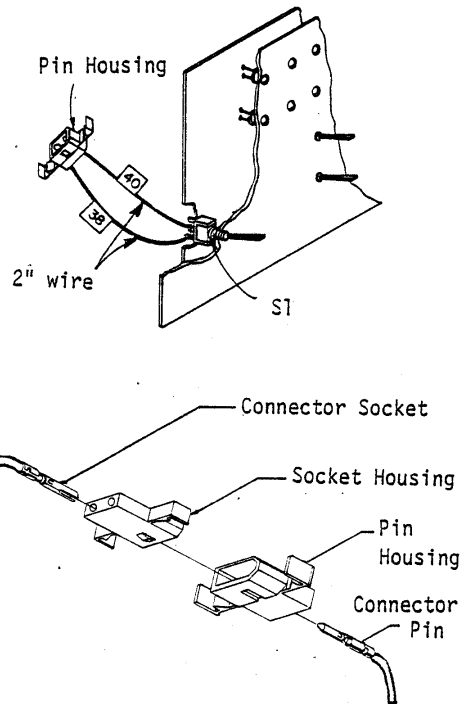

Figure 5-64. On/Off Switch Wiring
(Figure 5-64)
3. Attach a connector pin to the free end of both wires. Insert the connector pins into the 2-pin pin housing, as shown in Figure 5-64.